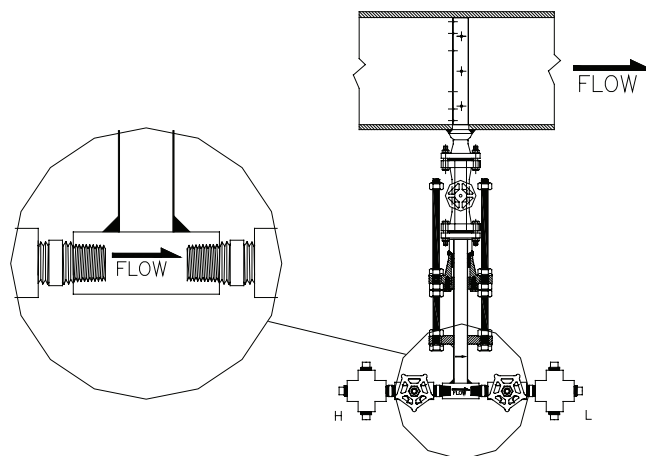

Figure 3: Sensor alignment
7. Install the flanged cage nipple, weldneck flange and packing gland with the threaded rods assembly by flanging it onto the isolating gate valve. Align the arrow on the sensor head with the direction of flow. See Figure 3.